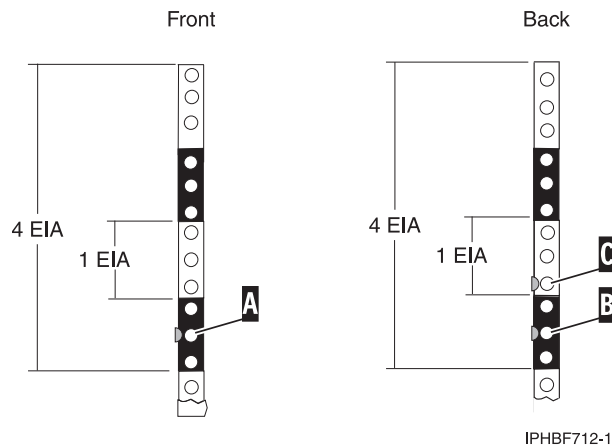

Figure 68. Marking holes on the front and back of the rack frame
2. Facing the front of the rack and working from the right side, place a self-adhesive dot next to the middle hole of the bottom EIA unit (A) in Figure 68 on page 72.
5. Place a self-adhesive dot at the middle hole of the bottom EIA unit, **(B)** in Figure 68.
6. Place a self-adhesive dot at the bottom hole of the next (higher) EIA unit, **(C)** in Figure 68.